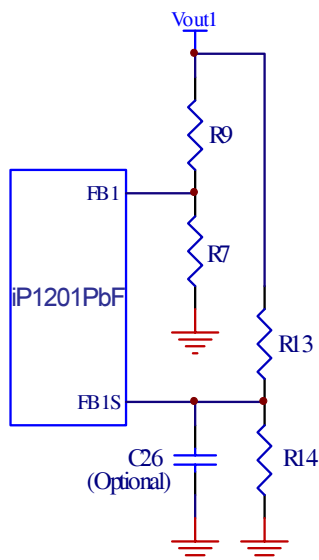

Fig. 19: Typical scheme for output voltage setting
Both outputs of the iP1201PbF will shut down if either one of the outputs experiences a voltage in the range of 115% of V_{OUT} . The overvoltage sense pins FB1s and FB2s are connected to the output through voltage dividers, R_{13} and R_{14} (Fig. 19), and the trip setpoints are programmed according to equation (1). Separate overvoltage sense pins FB1s and FB2s are provided to protect the power supply output if for some reason the main feedback loop is lost (for instance, loss of feedback resistors). If this redundancy is not required and if Type II control loop compensation scheme is utilized, FB1s and FB2s pins can be connected to FB1 and FB2 pins respectively. An optional 100pF capacitor (C26) is used for delay and filtering purposes. In parallel configuration, FB2s should be connected to FB1s
When selecting output capacitors, it is important to consider the overshoot performance of the power supply. If the amount of capacitance is not adequate, then, when unloading the output, the magnitude of the overshoot due to stored inductor energy, and depending on the speed of the response of the control loop, can exceed the overvoltage trip threshold of the iP1201PbF and can cause undesirable shutdown of the output. The magnitude of the overshoot should be kept below $1.125V_{OUT}$. To prevent the overshoot from tripping the output a delay can be added by installing capacitor C26 as shown in Fig.19.
From Fig.19 the transfer function $H(s)$ of the error amplifier is given by (9):